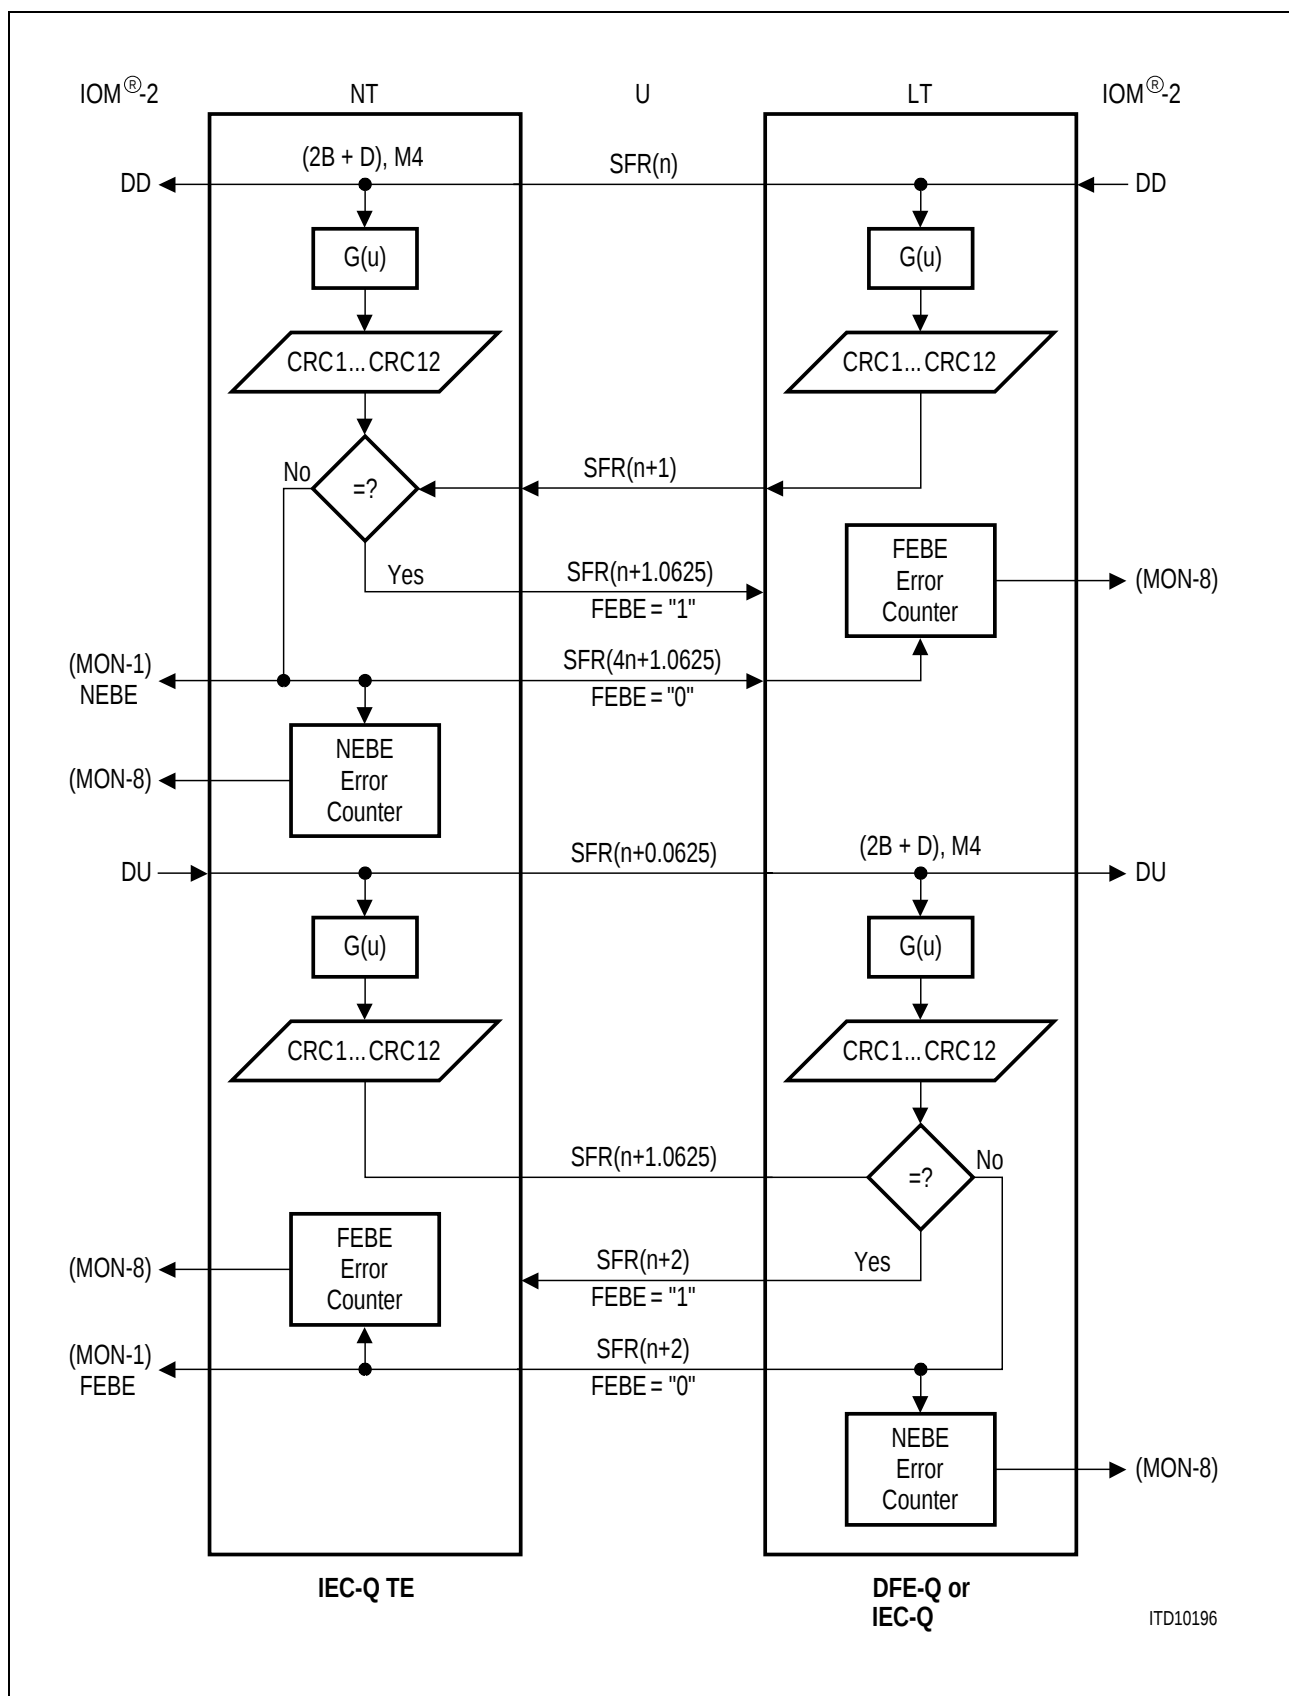

Figure 17 CRC-Process
**Figure 17** illustrates the CRC-process.